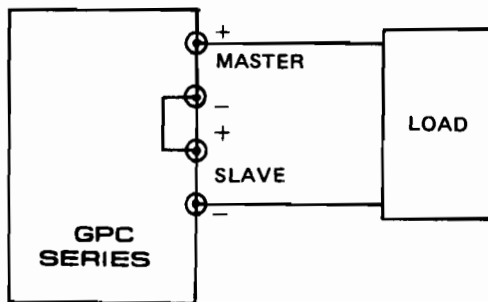

Fig. 5-3 Single Supply
- F. If "single supply" operation is desired, this allows the power supply to be used as twice the voltage and rating current simply by using the negative (black) terminal of the SLAVE supply and the positive (red) terminal of the MASTER supply, the configuration as shown in Fig. 5-3.